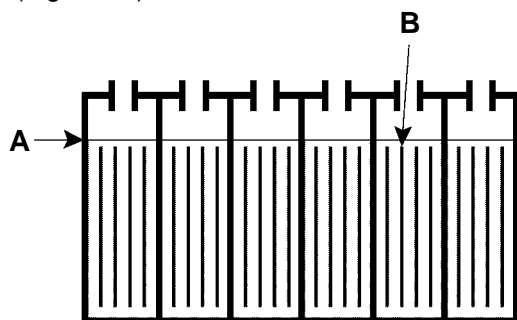

FIG. 19
- Before charging batteries, check electrolyte level (A) in each battery cell. Do not charge batteries unless electrolyte is slightly covering battery plates (B). If battery plates (B) are exposed, add just enough distilled water to slightly cover plates, level (A). Never add acid to batteries. DO NOT overfill. Batteries can overflow during charging due to expansion. Replace cell caps before charging (Figure 19).